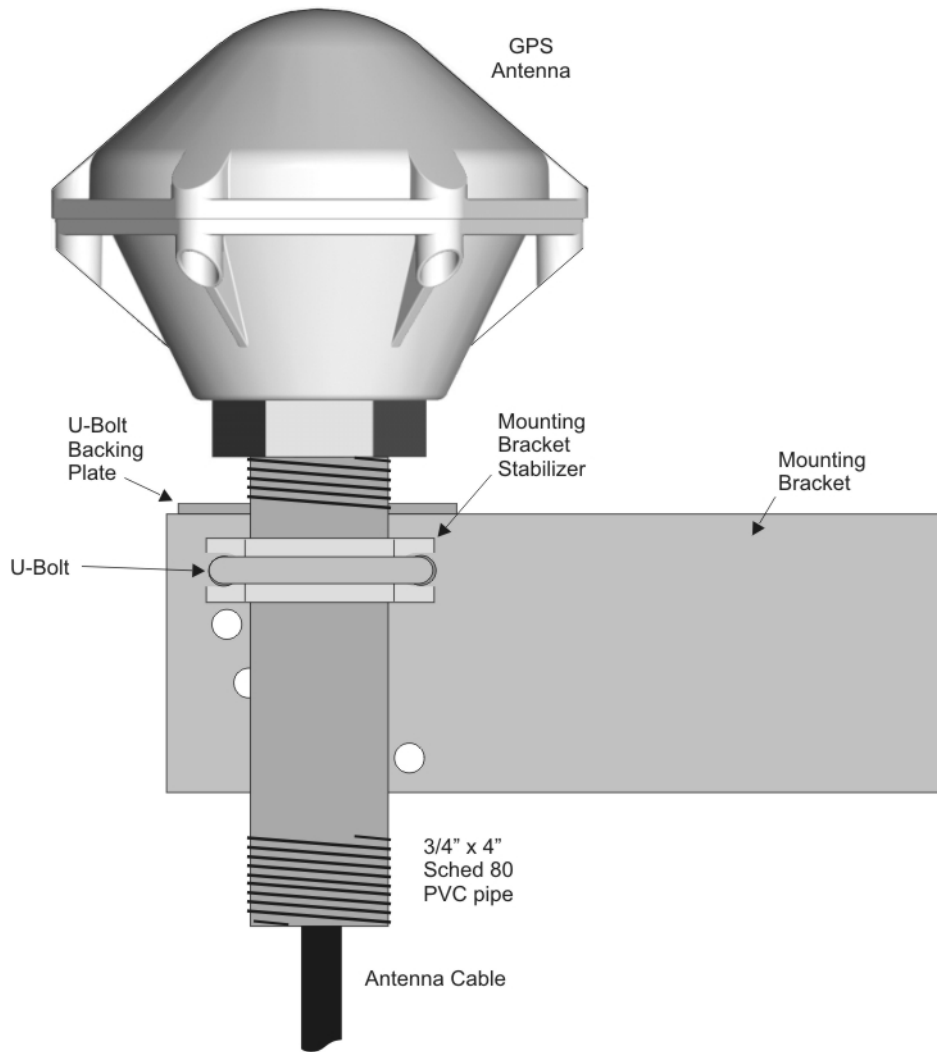

Figure 2: Mounting the Antenna Assembly to the Bracket
Typically, it is a good idea to mount the bracket to the surface or mast prior to installing the antenna assembly. However, it is important to understand how the finished assembly goes together in order to properly orient the bracket. Refer to Figure 2 and the following instructions for details on mounting the antenna assembly to the bracket.
3. Feed the ends of the U-bolt through the appropriate holes on the mounting bracket, as shown in Figure 2. Note: For mounting surfaces that are not perfectly horizontal or vertical, refer to the section describing angled mounting.